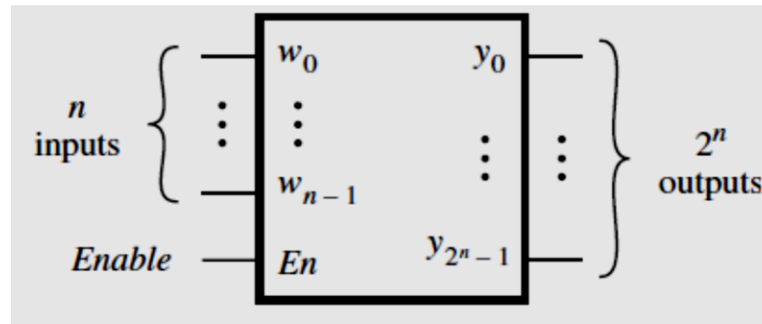

Figure 8.1 Decoder
- A binary decoder, depicted in Fig. 8.1, is a logic circuit with  $n$  inputs and  $2^n$  outputs.